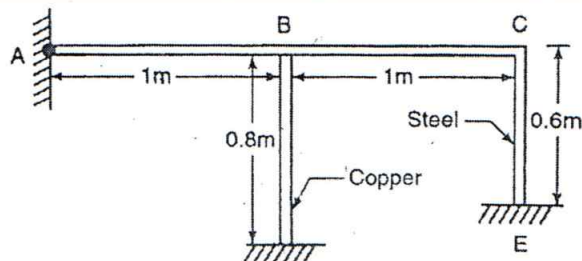

Figure Q2b
- b) A rigid member ABC pinned at end A is connected by two bars; a steel bar CE and a copper bar BD as shown in figure Q2b. The setup is stress-free at  $20^\circ\text{C}$ . If the temperature of the whole assembly is raised by  $40^\circ\text{C}$ , find the stresses induced in steel and copper bars. 12